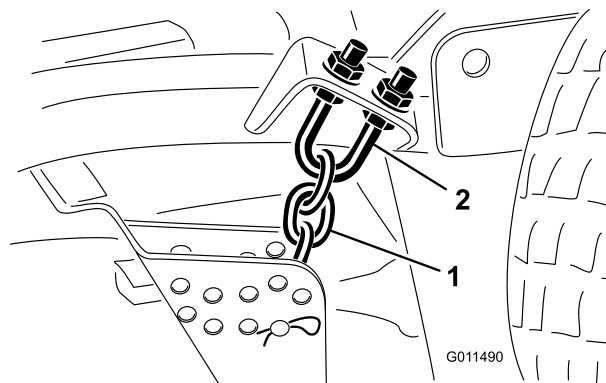

Figure 76
1. Loosen the jam nuts on the top or bottom of the height-of-cut chain U-bolt (Figure 76).